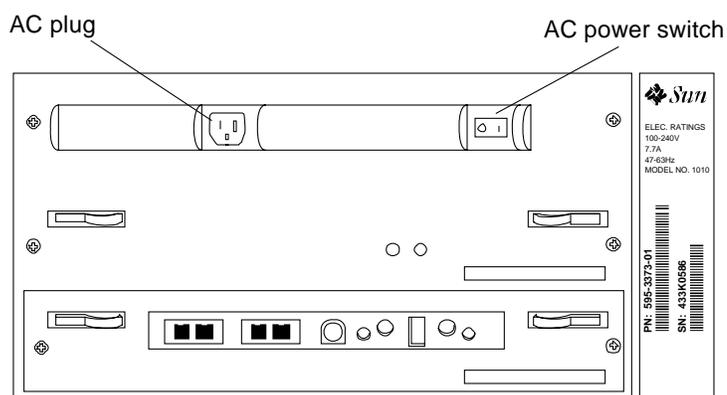

Figure 7-12 SPARCstorage Array AC Power Switch and AC Plug
2. After the system administrator has prepared the array for servicing and spun down all drives in the array trays, turn off the AC power switch on the array, (Figure 7-12).
- a. **Ensure that the SPARCstorage Array AC power switch is off, (Figure 7-12).**